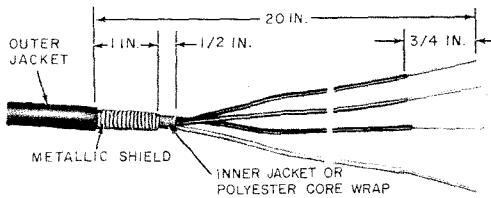

Fig. 29—Prepared Service Wire—D Cable Closure
6.03 Prepare service wire for D cable closure as illustrated in Fig. 29.